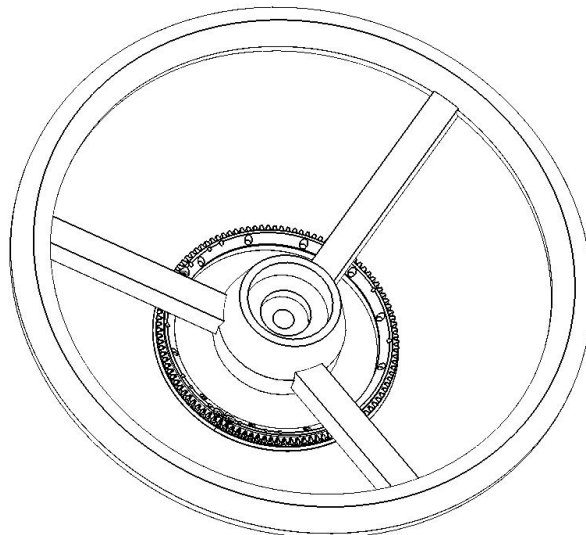

Figure 4 – Installed Main Gear
3. Install the larger section under steering wheel around steering column. Install with the gear side on the top, closest to the steering wheel as shown in Figure 4.
5. Reinstall and secure the 2 hex screws. At this point the main gear is assembled around the steering column below the steering wheel as shown in the Figure 4. The gear is free to move around and must be now clamped to the steering wheel.